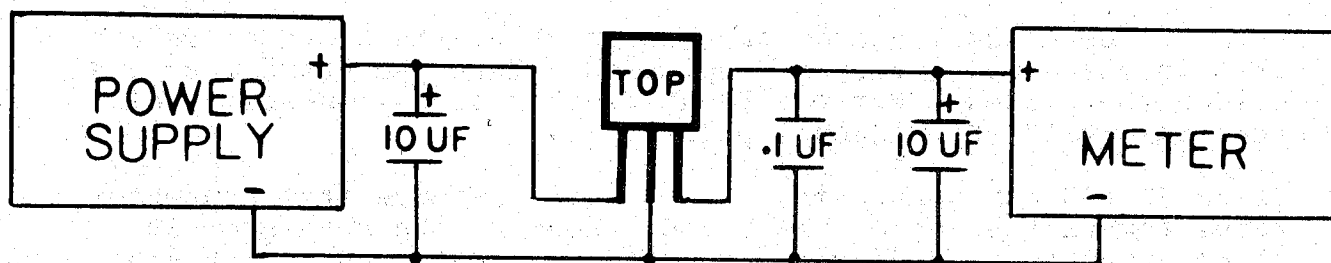
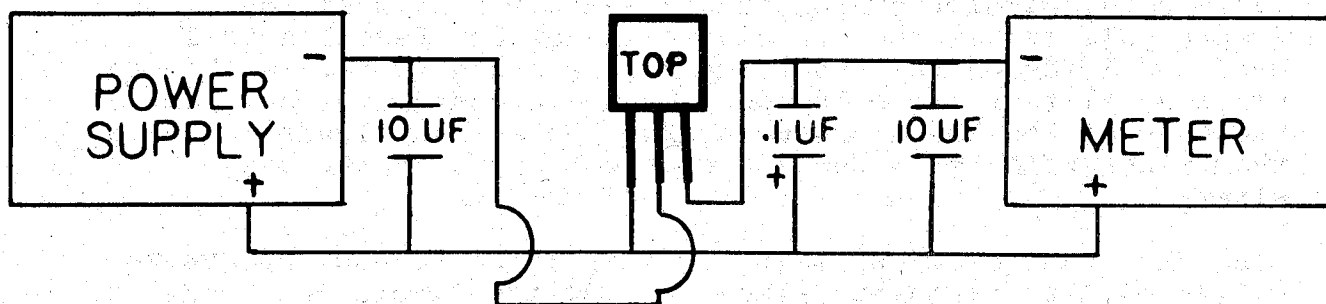

FIGURE 6. TO220 (T PACKAGE) POSITIVE VOLTAGE REGULATOR TEST SETUP
FIGURE 7. TO220 (T PACKAGE) NEGATIVE VOLTAGE REGULATOR TEST SETUP
- I-18 Before installing Q1, Q2, (+5 volt regulator), Q3 (+12 volt regulator), and Q4 (-12 volt regulator), it is recommended that they be tested for proper operation. Attach the test setup as shown in figure 6 for the positive voltage regulators and as shown in figure 7 for the negative voltage regulator.